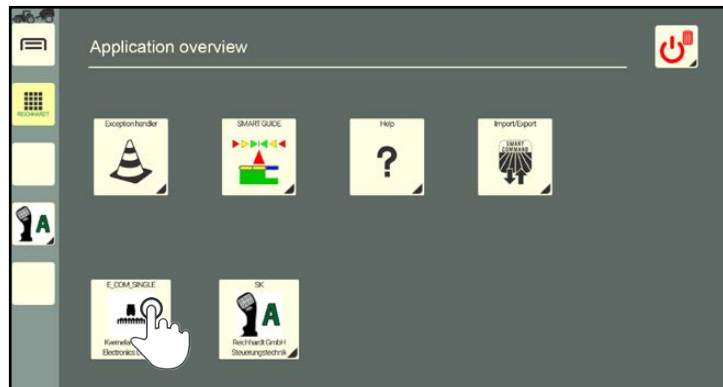

Fig. 69: Tapping the application in the application overview
- the application overview (see Fig. 69),